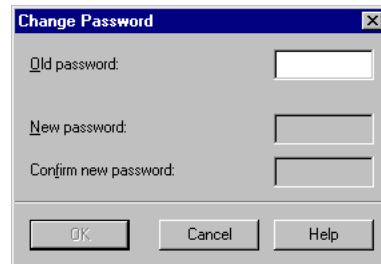

Figure 4-30 DIGSI® 4, Changing Passwords
- In the Passwords window shown in Figure 4-29, double click on the password to be changed. In the next window (Figure 4-30), enter the present password, the new password, and confirm with the new password again and **OK**.